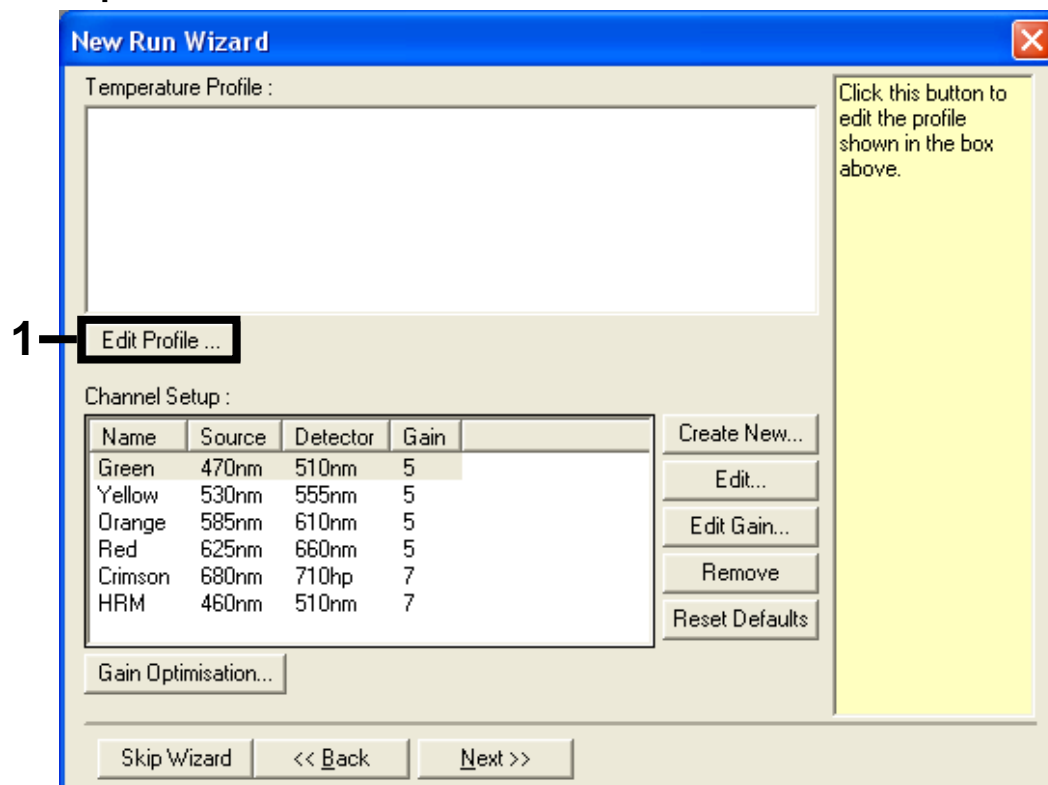

Figure 11. Editing the profile. 1 = "Edit Profile" button.
5. Click the "Edit Profile" button in the "New Run Wizard" dialog box (Figure 11), and program the run parameters according to the following steps.